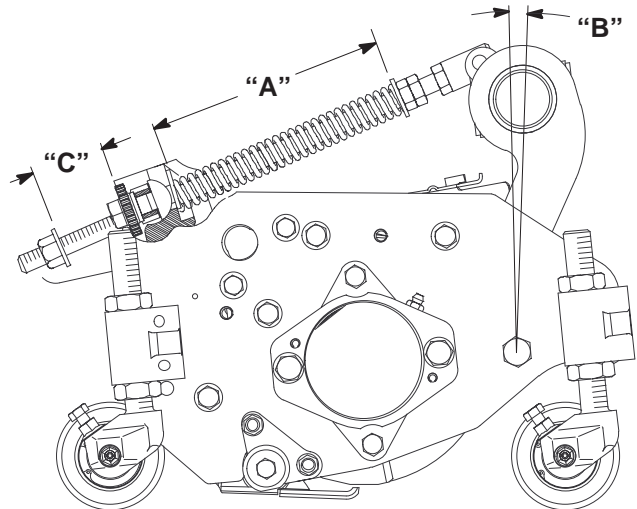

Figure 2
The Turf Compensation Spring (Fig. 2), connecting carrier frame to cutting unit, controls the amount of fore-aft rotation available, as well as the amount of ground clearance in transport and turn around.
1. Tighten lock nut on rear of spring rod until the gap (C) between rear of spring bracket and front of washer is 1" (26 mm) (Fig. 2).
2. Tighten hex nuts on front end of spring rod until the compressed length (A) of spring is 8" (203 mm) (Fig. 2).
Note: When cutting rough or undulating turf, increase compressed length (A) of spring to 8-1/2" (216 mm) and gap (C) between rear of spring bracket and front of washer to 1-1/2" (39 mm) (Fig. 2).